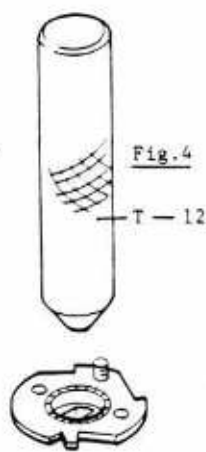
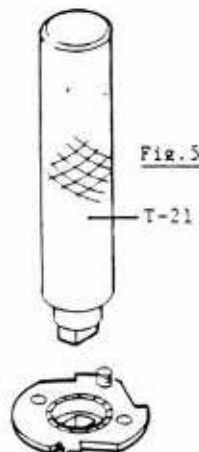

Fig. 4
Fig. 5
2. Position TL1455K2 Start wheel assembly and TL1459 Starting pawl as shown in Fig. 3 while keeping Winding lever advancing fully. After positioning, remove Start wheel assembly and rivet Start wheel to TL1456 Hub using Tool T-12 Calking tool so as not to move as shown in Fig. 4. Narrow the hole connecting Hub of Start wheel with Shaft of Shutter curtain drum assembly using Tool T-21 Special tool, if necessary, so as to connect tightly as shown in Fig. 5. Tighten TL1457 Screw and apply a gule to it. Adjust clearance using TL1629 Washer as shown in Fig. 6 in case there is much clearance between Start wheel assembly and Shutter curtain drum assembly.